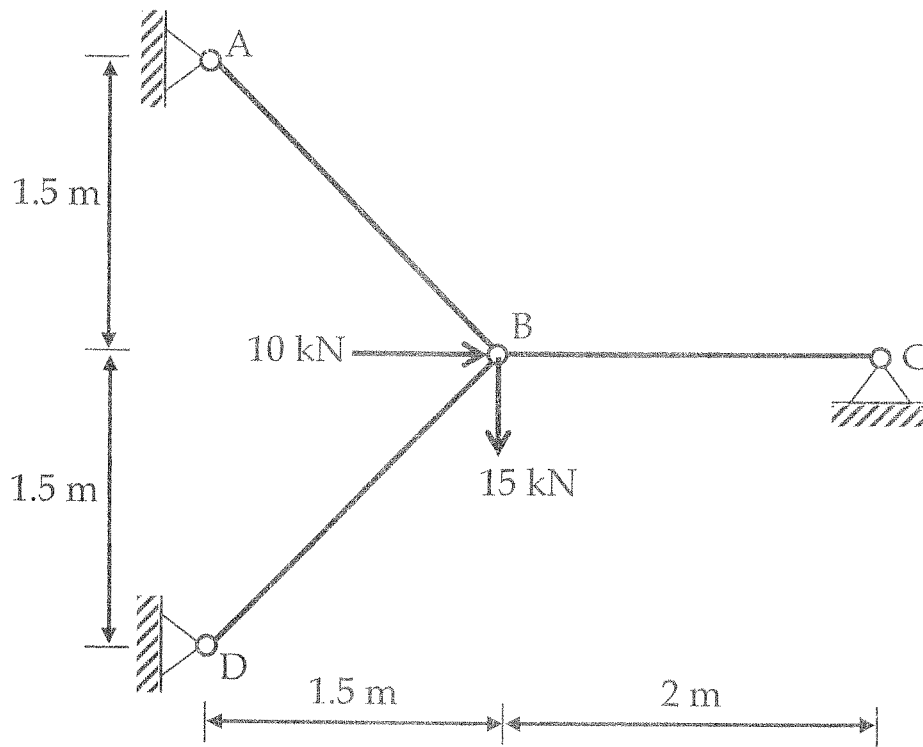

Fig. Q1
- Q1. Analyse the truss structure shown in Fig Q1 using flexibility matrix method. Assume for all members  $AE = 2 \times 10^3$  kN.